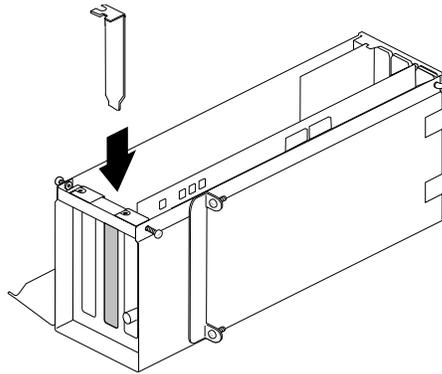

Figure 4-42 Inserting the I/O Blank Panel
8. Install an I/O blank panel in the I/O door in place of the PCI board, as shown in Figure 4-42.